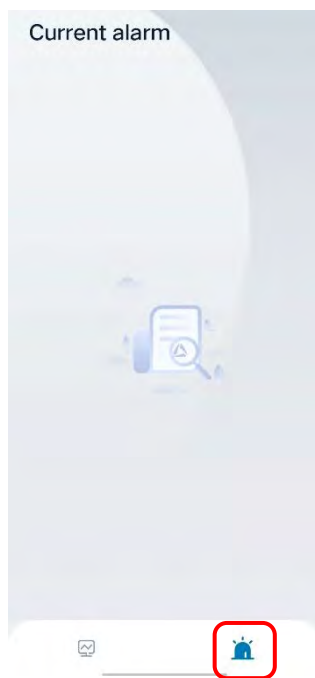

Figure5-14 Alarm info page
- Tap the bottom icon  , you can view the current alarm info of BMS, as shown in Figure5-14.